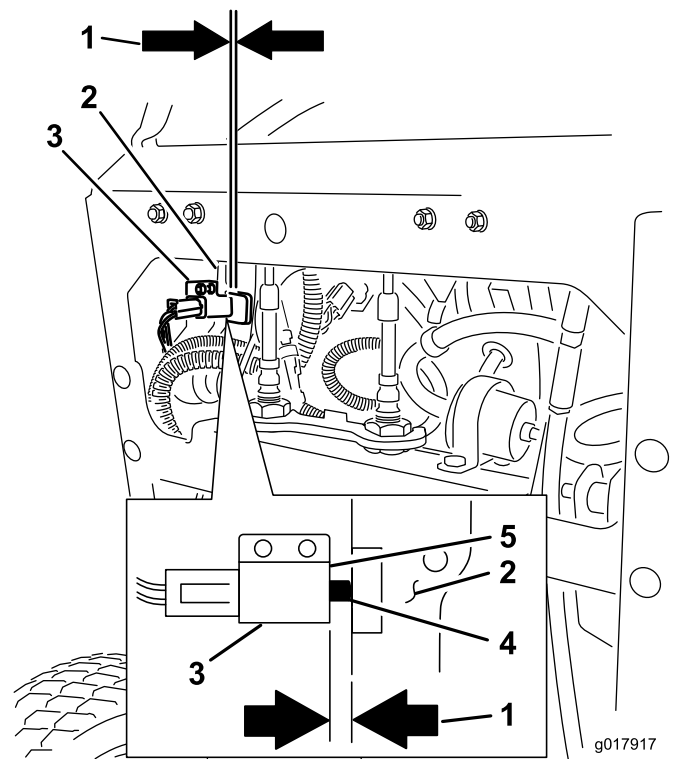

Figure 67
12. Check the gap between the brake lever and the face of the switch as shown in Figure 67. The gap needs to be an 1/8 inch (3mm) with the brake **engaged**.